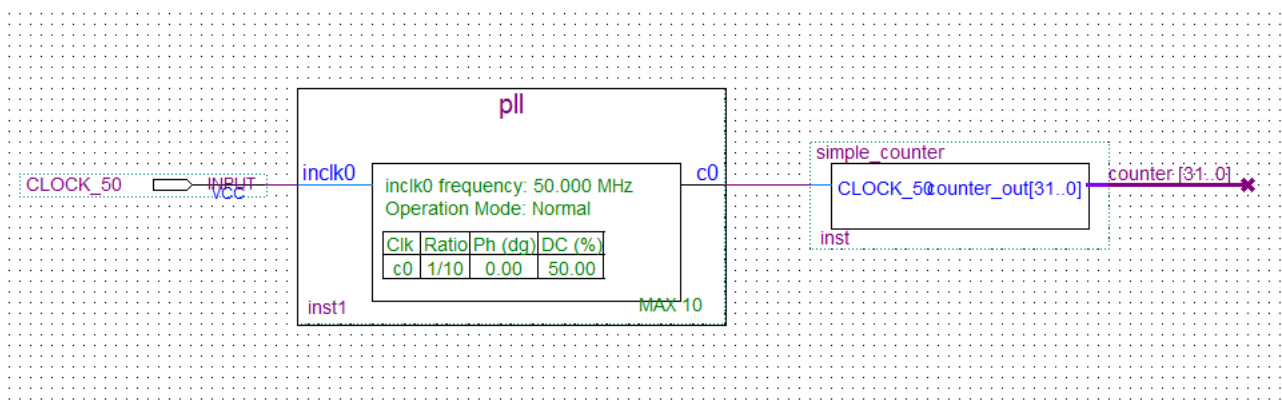

Figure 3-20 BDF
- j. Click OK. **Figure 3-20** shows the BDF.